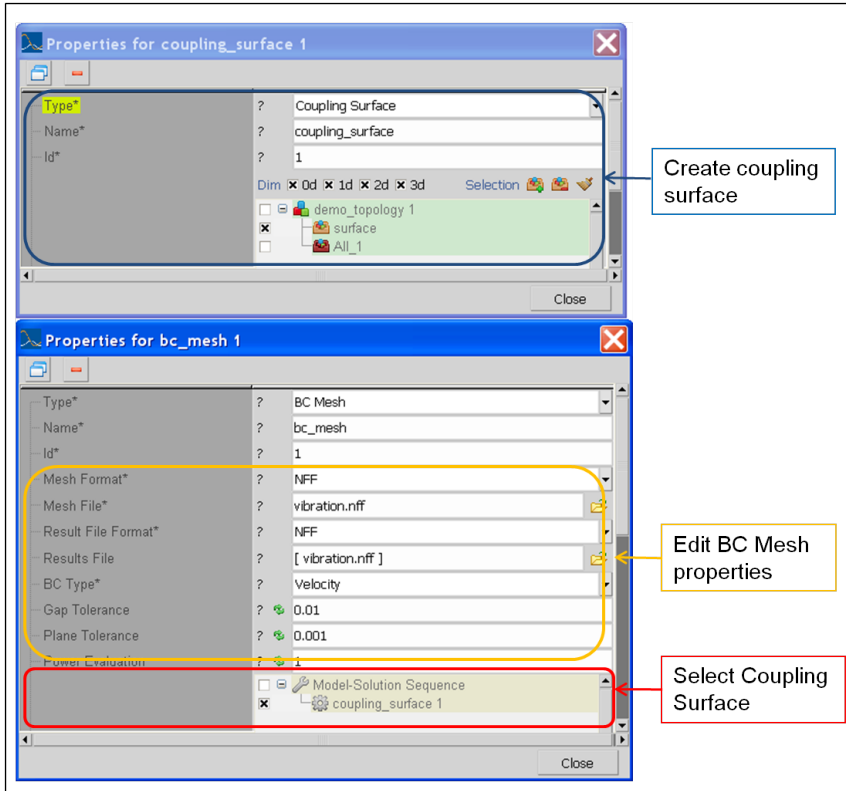

Figure 10.74: Creating a BC Mesh boundary condition
- The BC Mesh boundary condition does not have a **scope selector**, but a **Coupling Surface selector**. One first needs to create the coupling surface(s) and select the coupling surface(s) for the BC Mesh boundary condition. This is illustrated in Figure 10.74;